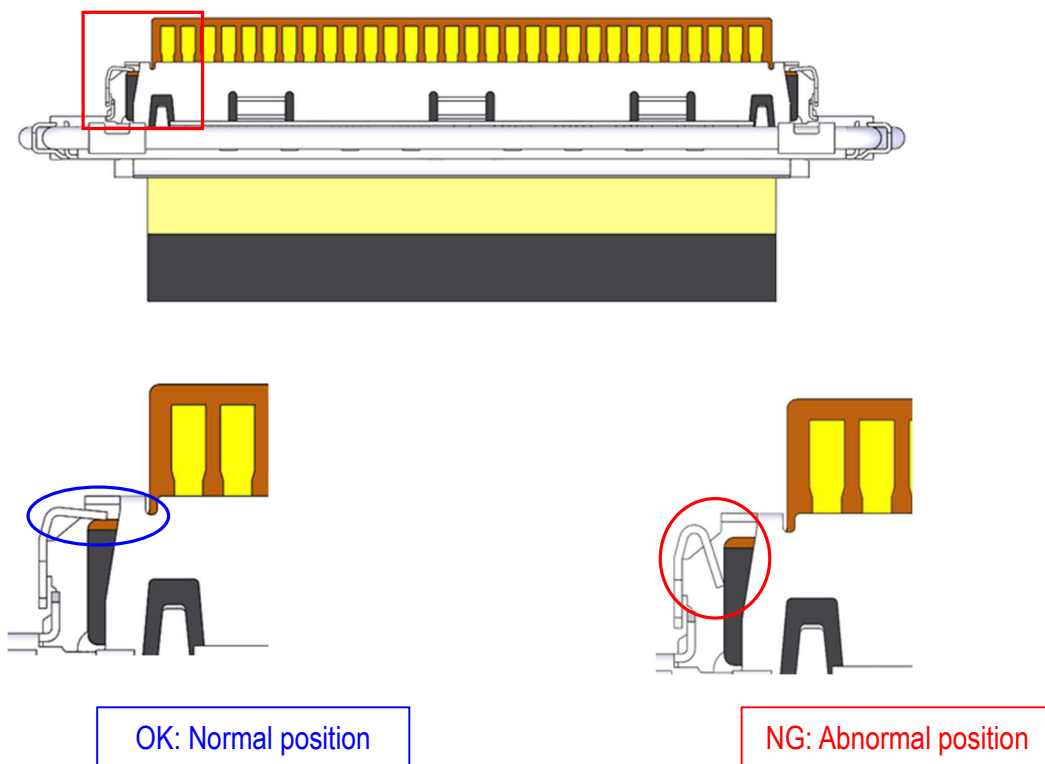

Fig.7 SHELL spring position
- ③ Make sure that SHELL spring position is in the normal position (Fig.7).